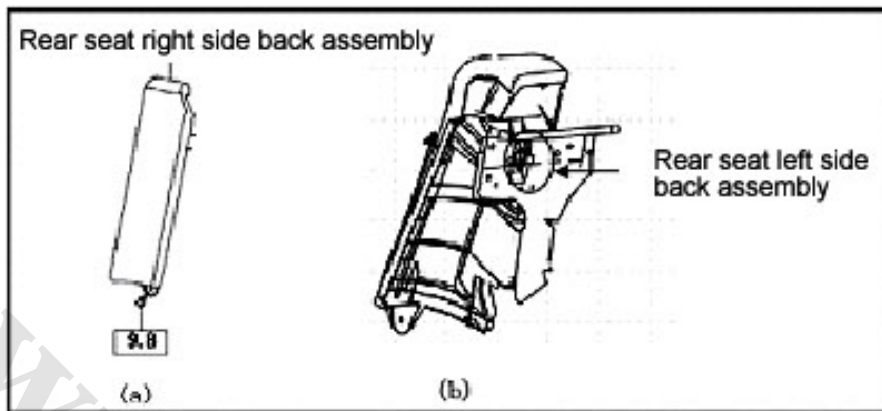

Fig. 7-18
② Incline the seat back assembly.
③ Remove the two side bracket flange bolts connecting to the body at the left and right side.
(2) Remove the left side back of the left rear seat.
- ① Remove the bolts.
- ② Hold the side back assembly upwardly along the direction of the arrowhead so as to separate the armrest pothook with the body, as shown in Fig. 7-18.